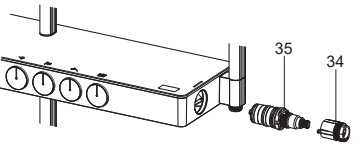

Fig.7
将螺母(33)和塑料套(34)卸下。小心地卸下温控阀(35)。用热醋进行清洗(Fig.7)。
Unscrew the nut(33) and stopper(34). Remove the cartridge(35) cautiously. Clean the cartridge by soaking it in warm vinegar(Fig.7).